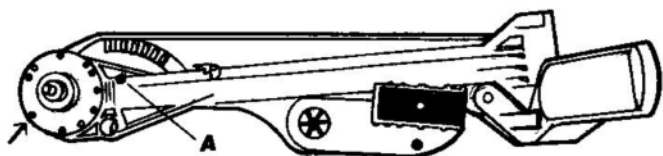

FIG 57
2. Remove 6 screws holding main bearing housing (Fig 57) shown marked. Remove bearing holding screw A.